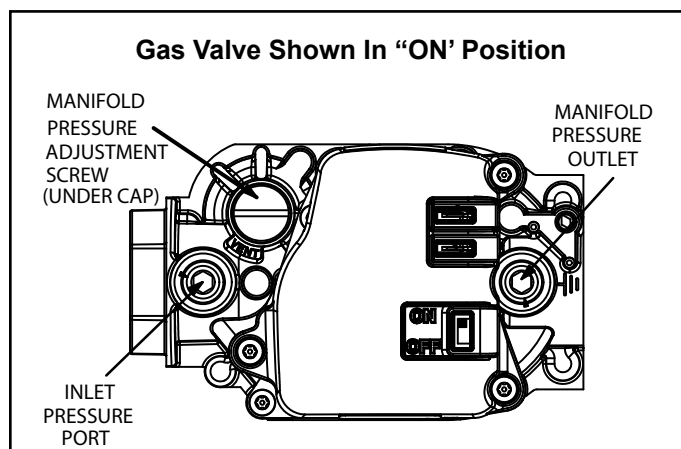

Figure 58.
See Figure 58
6. Move gas valve switch to OFF. See Figure 58.
8. Move gas valve switch to ON. See Figure 58.